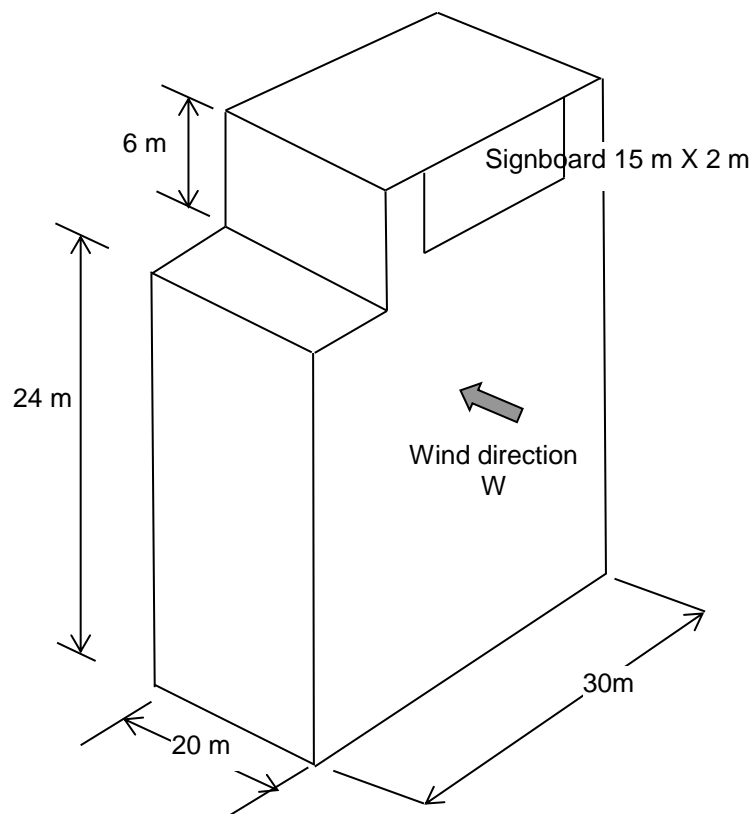

Figure 6/Rajah 6
3. (a). A ten storey RC building as shown in **Figure 6** is situated in Petaling Jaya with terrain category 2. Calculate the value of design wind pressure on the W (windward) surface at level 30 m. Design data can be extracted from MS1553 (2002).
- (b). The building is also equipped with a signboard of 15 m x 2 m on the windward surface as shown in **Figure 6**. Assuming that it is a cladding element, calculate the maximum pressure experienced by the signboard.